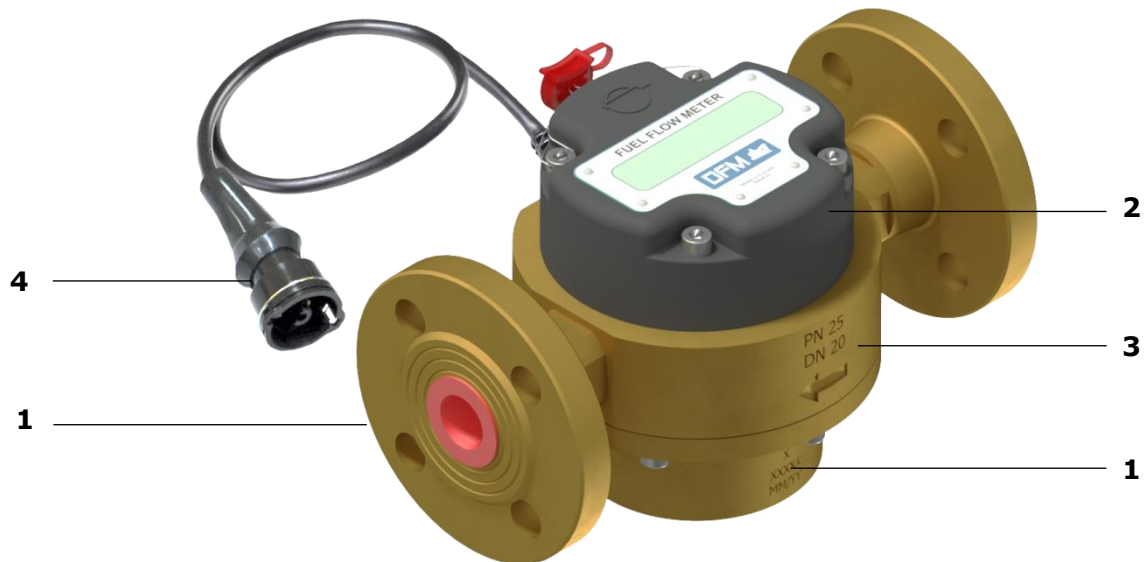

Figure 8 — DFM Marine components
DFM Marine consists* of a ring-type measuring chamber (1), measuring "head" with display and with electronic unit inside (2), body with connection (flanged or threaded) (3), interface output cable with connector (4) (see figure 8).